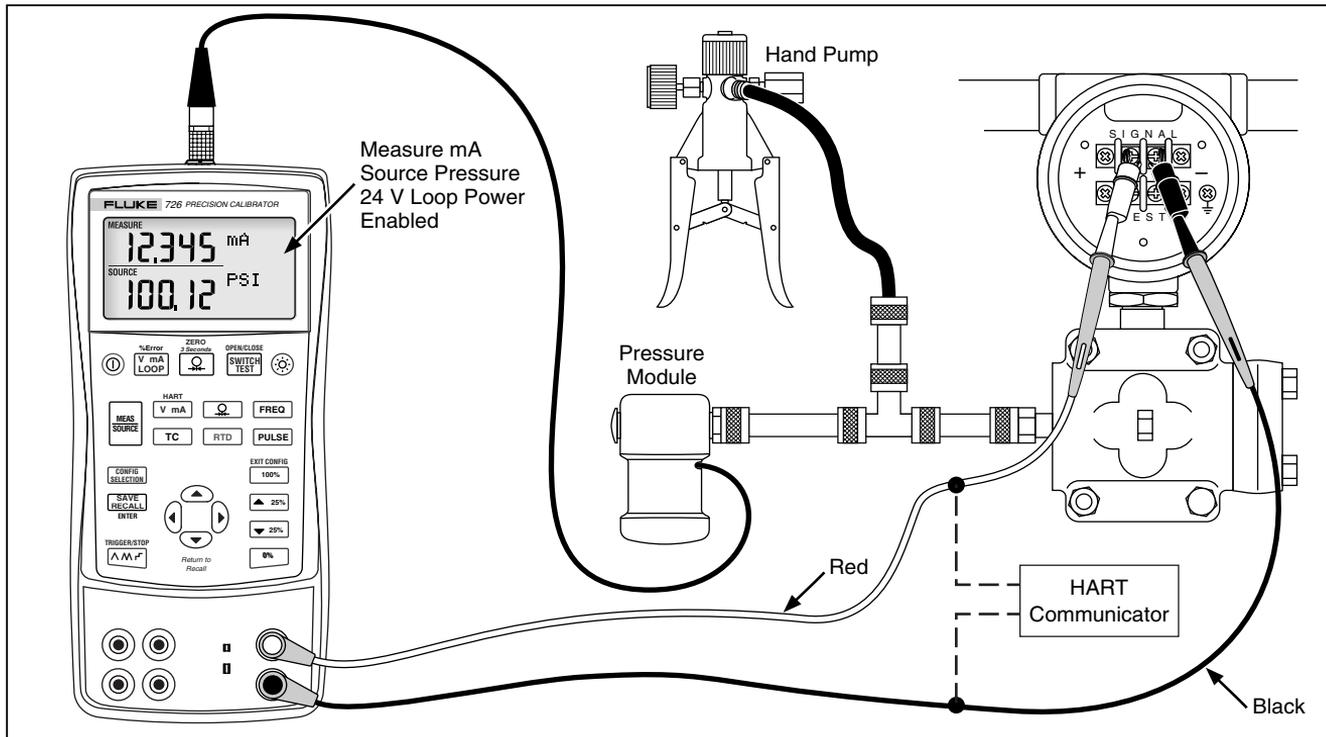

Figure 21. Calibrating a Pressure-to-Current (P/I) Transmitter
1. Connect the Calibrator to the instrument under test as shown in Figure 21.